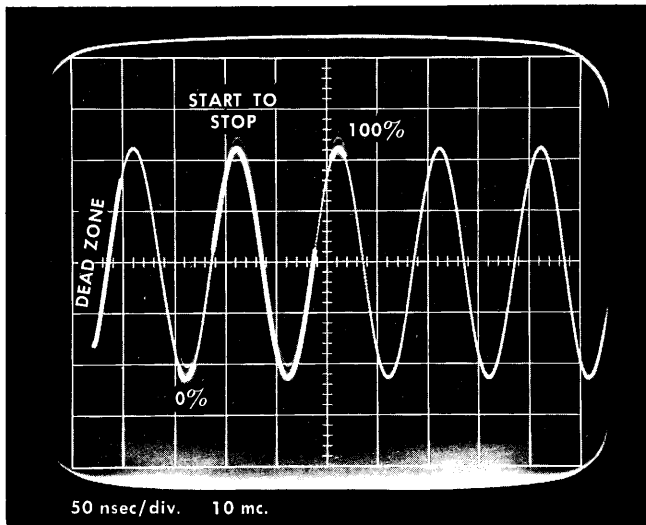

Fig. 5-32. Type 6R1A Intensified Zones when readjusting C124 in Step 21.
b. Position the Type 6R1A 0% and 100% Intensified Zones as shown in Fig. 5-32. The Digital Unit readout should now be $.100 \mu\text{S}$. If it is not, set the Type 6R1A RESOLUTION switch to HI AVERAGE OF TEN SWEEPS and adjust the Type 3T4 Fast Ramp Capacitor, C124, until the readout is between $.1005$ and $.0995 \mu\text{S}$. Watch the readout for several counts before proceeding. Reset the Type 6R1A RESOLUTION switch to LO AVERAGE OF TEN SWEEPS.